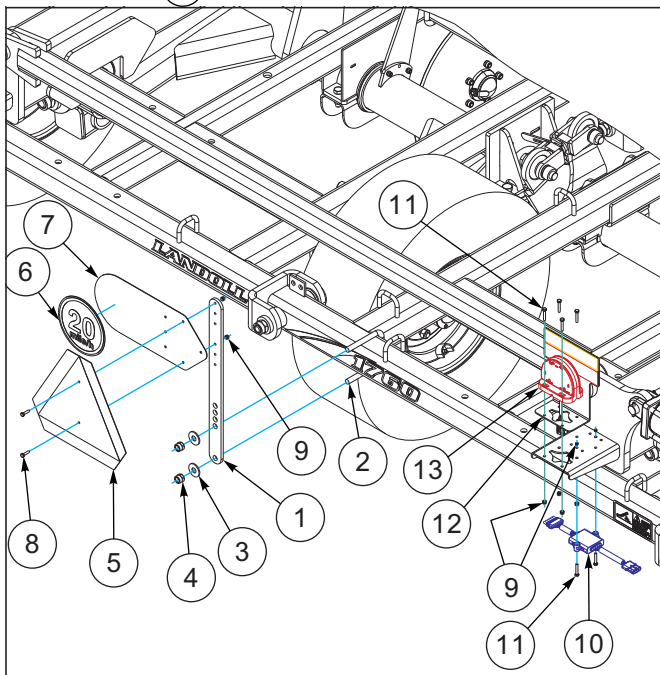

Figure 3-9: Rear Light Bracket Assembly 1760
2. Secure LH & RH light brackets (1) with 5/8"-11x4"x6-1/2" u-bolts (2) and 5/8"-11 lock nuts (3).
3. Attach the amber led ag lamps (4) to both light brackets with 1/4"-20x1-1/4" cap screws (5) and 1/4"-20 lock nuts (6).
4. Attach wiring harness (7) to lead on amber led ag lamps (4).
5. Model 1760-35' attach the SMV mounting bracket (1) to back of rear tube with 5/8 x 4-11/15 x 5-1/2 u-bolt (2), 5/8 flat washers (3) and 5/8 lock nuts (4) **See Figure 3-9.**
6. Mount the SMV emblem (5), SIS decal (6), SIS decal mount (7) using 1/4 x 1 bolts (8) and 1/4 lock nuts (9).
7. Attach the AG flasher control module (10) to bottom side of the RH mount plate with 1/4 x 1-1/2 bolts (11) and 1/4 lock nuts (9). Install the reflector mounts (12), red LED lamps (13) to top side of the mount plate, both sides, with 1/4 x 1-1/2 bolts (11) and 1/4 lock nuts (9).
8. Model 1770-40', 1790-52', 1710-64' attach the SMV mounting bracket (1) to back of rear tube with 5/8 x 4-11/15 x 5-1/2 u-bolt (2), and 5/8 lock nuts (3) **See Figure 3-9.**
9. Mount the SMV emblem (4), SIS decal (5), SIS decal mount (6) using 1/4 x 1 bolts (7) and 1/4 lock nuts (8).
10. Install the tail light mounts (9) to top side of rear tube with 5/8 x 4 x 6-1/2 u-bolt (10) and 5/8 lock nuts (3). Attach the AG flasher control module (11) to bottom side of the RH tail light mount (9), with 1/4 x 1-1/2 bolts (12) and 1/4 lock nuts (3). Install the reflector mounts (13), red LED lamps (14) to top side of the welded plate, both sides, with 1/4 x 1-1/2 bolts (12) and 1/4 lock nuts (8).